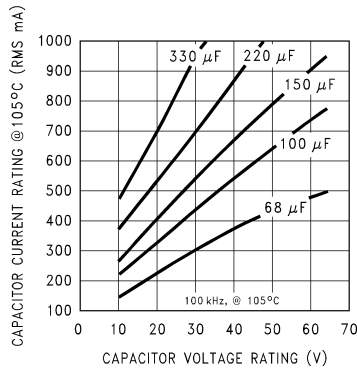

Figure 28. RMS Current Ratings for Low ESR Electrolytic Capacitors (Typical)
<p>B. Select an appropriate capacitor value and voltage rating, using the capacitor code, from the output capacitor selection table in <a href="#">Table 10</a>. There are two solid tantalum (surface mount) capacitor manufacturers and four electrolytic (through hole) capacitor manufacturers to choose from. It is recommended that both the manufacturers and the manufacturer's series that are listed in the table be used. A table listing the manufacturers' phone numbers is located in <a href="#">Table 4</a>.</p> <p>4. Catch Diode Selection (D1)</p> <p>A. In normal operation, the average current of the catch diode is the load current times the catch diode duty cycle, 1-D (D is the switch duty cycle, which is approximately <math>V_{OUT}/V_{IN}</math>). The largest value of the catch diode average current occurs at the maximum input voltage (minimum D). For normal operation, the catch diode current rating must be at least 1.3 times greater than its maximum average current. However, if the power supply design must withstand a continuous output short, the diode should have a current rating greater than the maximum current limit of the LM2672. The most stressful condition for this diode is a shorted output condition.</p> <p>B. The reverse voltage rating of the diode should be at least 1.25 times the maximum input voltage.</p> <p>C. Because of their fast switching speed and low forward voltage drop, Schottky diodes provide the best performance and efficiency. The Schottky diode must be located close to the LM2672 using short leads and short printed circuit traces.</p> <p>5. Input Capacitor (CIN)</p> <p>A low ESR aluminum or tantalum bypass capacitor is needed between the input pin and ground to prevent large voltage transients from appearing at the input. This capacitor should be located close to the IC using short leads. In addition, the RMS current rating of the input capacitor should be selected to be at least ½ the DC load current. The capacitor manufacturer data sheet must be checked to assure that this current rating is not exceeded. The curves shown in <a href="#">Figure 28</a> show typical RMS current ratings for several different aluminum electrolytic capacitor values. A parallel connection of two or more capacitors may be required to increase the total minimum RMS current rating to suit the application requirements.</p> <p>For an aluminum electrolytic capacitor, the voltage rating should be at least 1.25 times the maximum input voltage. Caution must be exercised if solid tantalum capacitors are used. The tantalum capacitor voltage rating should be twice the maximum input voltage. The tables in <a href="#">Table 7</a> show the recommended application voltage for AVX TPS and Sprague 594D tantalum capacitors. It is also recommended that they be surge current tested by the manufacturer. The TPS series available from AVX, and the 593D and 594D series from Sprague are all surge current tested. Another approach to minimize the surge current stresses on the input capacitor is to add a small inductor in series with the input supply line. Use caution when using ceramic capacitors for input bypassing, because it may cause severe ringing at the <math>V_{IN}</math> pin.</p> <p>6. Boost Capacitor (CB)</p> <p>This capacitor develops the necessary voltage to turn the switch gate on fully. All applications should use a 0.01 <math>\mu</math>F, 50V ceramic capacitor.</p> <p>If the soft-start and frequency synchronization features are desired, look at steps 6 and 7 in the fixed output design procedure.</p>	<p>B. From the output capacitor selection table in <a href="#">Table 10</a>, choose a capacitor value (and voltage rating) that intersects the capacitor code(s) selected in section A, C20 (<a href="#">Table 10</a>). The capacitance and voltage rating values corresponding to the capacitor code C20 are the:</p> <p>Surface Mount:  33 <math>\mu</math>F/25V Sprague 594D Series.  33 <math>\mu</math>F/25V AVX TPS Series.</p> <p>Through Hole:  33 <math>\mu</math>F/25V Sanyo OS-CON SC Series.  120 <math>\mu</math>F/35V Sanyo MV-GX Series.  120 <math>\mu</math>F/35V Nichicon PL Series.  120 <math>\mu</math>F/35V Panasonic HFQ Series.</p> <p>Other manufacturers or other types of capacitors may also be used, provided the capacitor specifications (especially the 100 kHz ESR) closely match the characteristics of the capacitors listed in the output capacitor table. Refer to the capacitor manufacturers' data sheet for this information.</p> <p>4. Catch Diode Selection (D1)</p> <p>A. Refer to the table shown in <a href="#">Table 5</a>. Schottky diodes provide the best performance, and in this example a 1A, 40V Schottky diode would be a good choice. If the circuit must withstand a continuous shorted output, a higher current (at least 2.2A) Schottky diode is recommended.</p> <p>5. Input Capacitor (CIN)</p> <p>The important parameters for the input capacitor are the input voltage rating and the RMS current rating. With a maximum input voltage of 28V, an aluminum electrolytic capacitor with a voltage rating of at least 35V (<math>1.25 \times V_{IN}</math>) would be needed. The RMS current rating requirement for the input capacitor in a buck regulator is approximately ½ the DC load current. In this example, with a 1A load, a capacitor with a RMS current rating of at least 500 mA is needed. The curves shown in <a href="#">Figure 28</a> can be used to select an appropriate input capacitor. From the curves, locate the 35V line and note which capacitor values have RMS current ratings greater than 500 mA.</p> <p>For a through hole design, a 330 <math>\mu</math>F/35V electrolytic capacitor (Panasonic HFQ series, Nichicon PL, Sanyo MV-GX series or equivalent) would be adequate. Other types or other manufacturers' capacitors can be used provided the RMS ripple current ratings are adequate. Additionally, for a complete surface mount design, electrolytic capacitors such as the Sanyo CV-C or CV-BS and the Nichicon WF or UR and the NIC Components NACZ series could be considered.</p> <p>For surface mount designs, solid tantalum capacitors can be used, but caution must be exercised with regard to the capacitor surge current rating and voltage rating. In this example, checking <a href="#">Table 7</a>, and the Sprague 594D series datasheet, a Sprague 594D 15 <math>\mu</math>F, 50V capacitor is adequate.</p> <p>6. Boost Capacitor (CB)</p> <p>For this application, and all applications, use a 0.01 <math>\mu</math>F, 50V ceramic capacitor.</p>